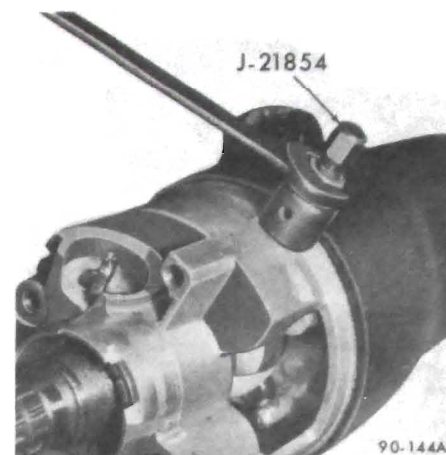

Figure 90-139 - Removing Pivot Pin
19. Remove two pivot pins with Tool No. J-21854-1. See Figure 90-139.